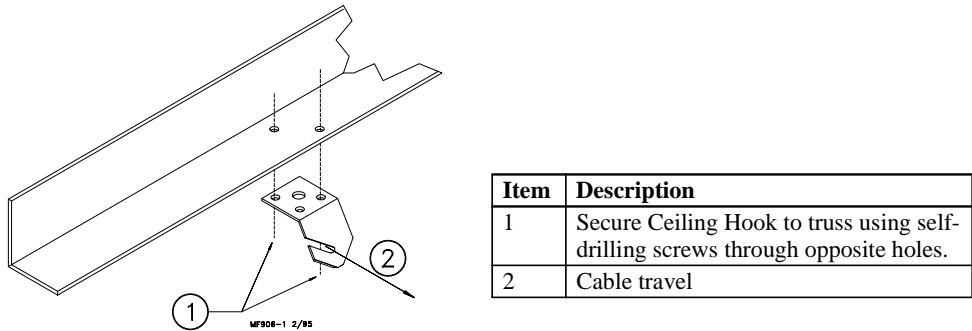

Figure 25. Wide Steel Truss Ceiling Bracket Installation
- 1. The ceiling hook may be used in a variety of installations. Depending on your ceiling or rafter type, install the Ceiling Hooks as shown in Figures 25 - 29.